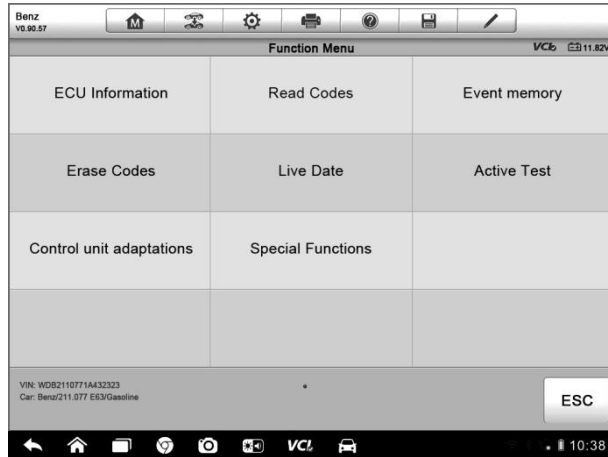

Figure 4-9 Sample Function Menu Screen
- Tab the  button to the right of the system item, on which you want to perform further diagnosis and other test activities. A Function Menu screen (*Figure 4-9*) shall then display.